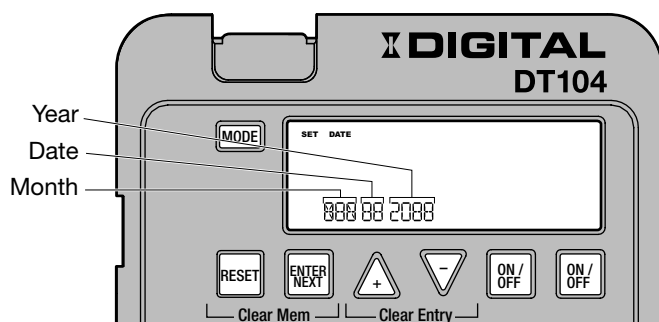

FIG. 7 Setting the Date
1. Press the **MODE** button repeatedly until the words SET and DATE appear in the upper area of the display. See FIG. 7.